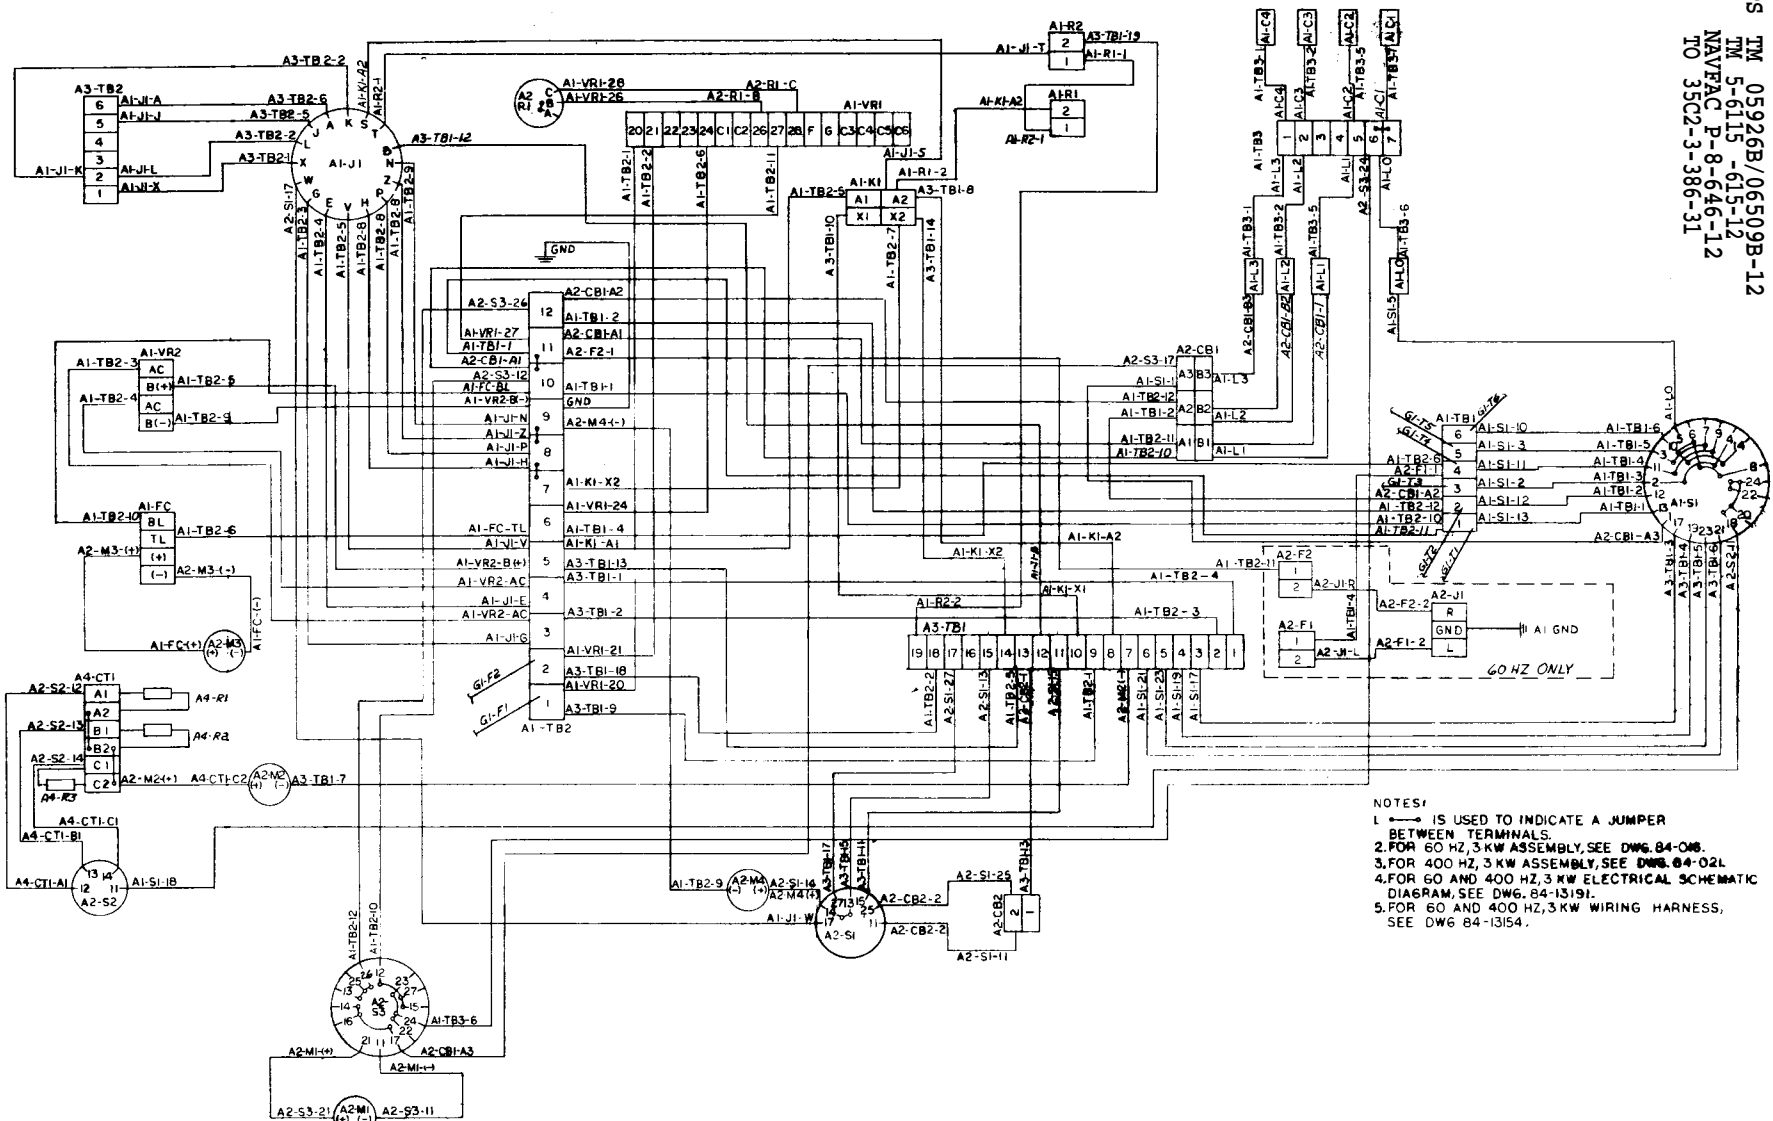

Figure 4-63. Wiring Diagram (Models MEP-016B and MEP-021B).
2. For electrical wiring diagram (Models MEP-016B and MEP-021B) see Figure 4-63.